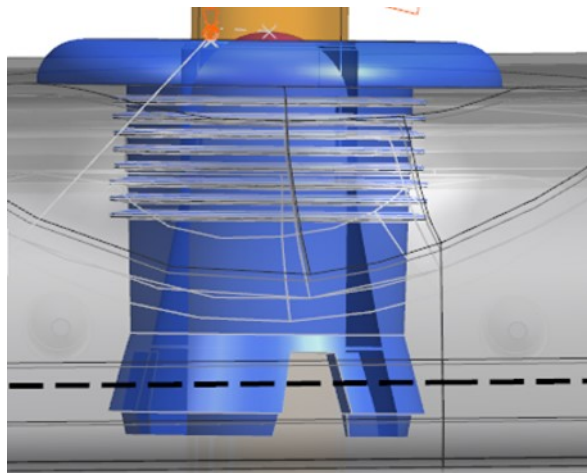

Fig. 4
3. Hold the door upper panel straight and push the new grommet straight in until it is flush with the door trim surface, apply pressure as needed until it sits flush (Fig. 4) .